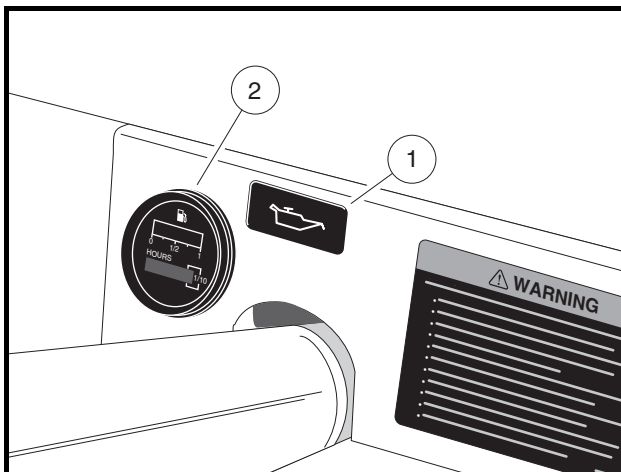

Figure 19 Fuel Gauge/Hour Meter and Low Oil Warning Light
The vehicle is equipped with a low oil warning light (1), located on the dash panel just above the steering column (**Figure 19**). If the warning light comes on, oil should be checked and added to the engine as necessary before continuing to use the vehicle. The vehicle should never be driven when the low oil warning light remains on. If the warning light goes on and off, the vehicle may be driven, but oil should be added at the first opportunity. If the oil level is correct and the warning light stays on, have a trained technician check the vehicle.
The gasoline-powered Club Car vehicle is equipped with a fuel gauge/hour meter (2), located on the dash panel (**Figure 19**). The fuel gauge allows the operator to monitor the fuel level in the vehicle. The hour meter should be used by a trained technician to track vehicle usage and to help determine when periodic service is required. **See Periodic Service Schedules on page 42.**